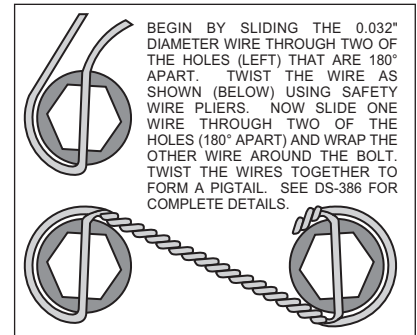

Figure 4. Safety Wire Diagram
- Pack the large inner bearing cone (6) with high temperature disc brake bearing grease (available from your local auto parts store) and install into the backside of the hub (5).
- Install the grease seal (7) by pressing into the backside of the hub (5).
- Attach rotor adapter (8) to rotor (9) using eight bolts (10). Torque bolts (10) to 180 **in-lb**. Safety wire bolts (10) using standard 0.032 inch diameter stainless steel safety wire as shown in Figure 4. Please refer to Wilwood's data sheet DS-386 (available at [www.wilwood.org/ds386.pdf](http://www.wilwood.org/ds386.pdf)) for complete safety wire installation instructions. **NOTE:** The flat side of the rotor (8) lugs face toward the rotor adapter (9) with the dished side of the rotor adapter (8) facing away from the rotor (9).